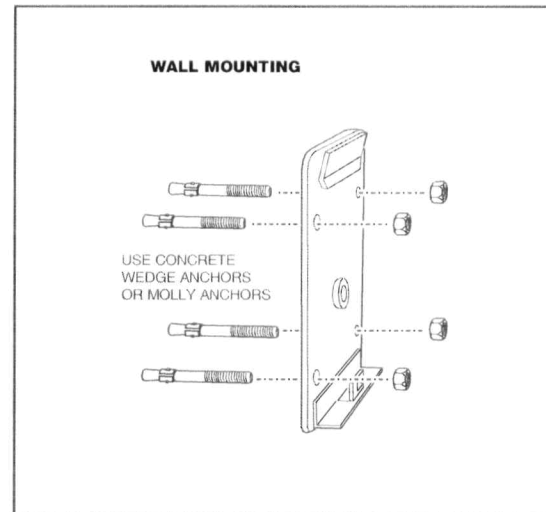

**Figure 3. Pedestal Mounting Keypad Backplate**
- Use four security bolts and locking nuts to secure the keypad's backplate to the pedestal (see Figure 3).